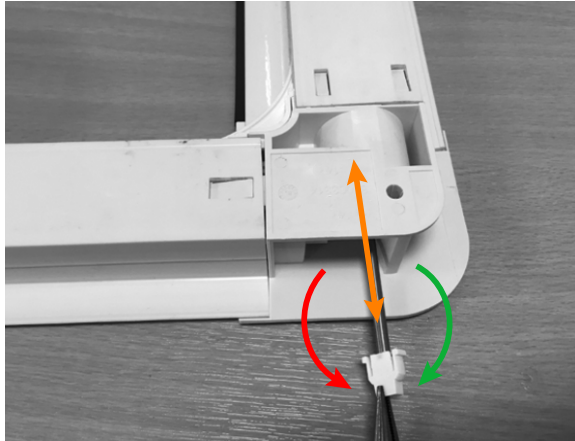

FIG 7
3. Turn clockwise to decrease tension and anti-clockwise to increase tension (fig 7).